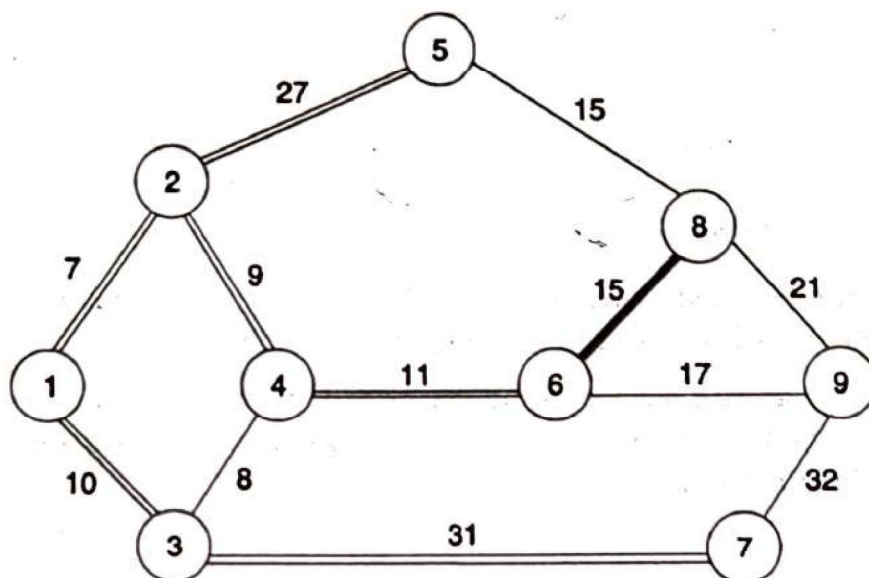

Fig. 5.17 Network showing partial solution.
2.2 The iteration among the preceding iterations in which the distance to L from the starting node is different from X is the Iteration 4. The node selected in that iteration is 6. So, thicken the arc 6–8 as shown in Fig. 5.17.